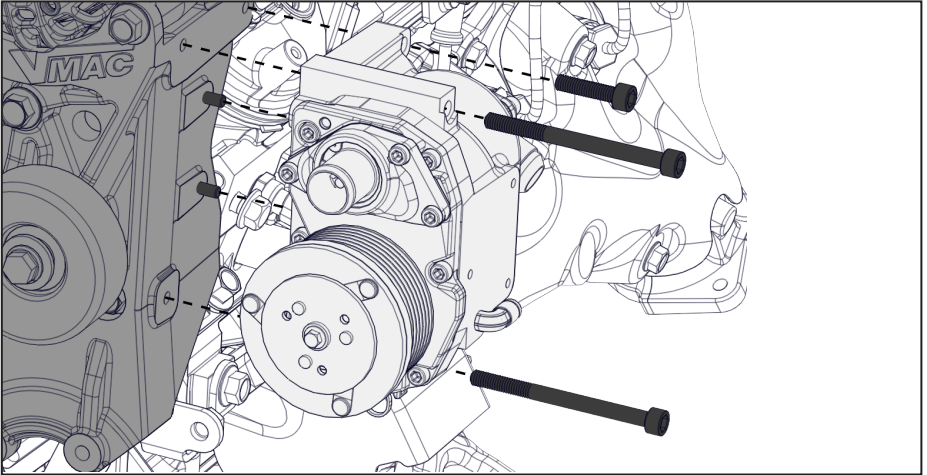

Figure 16 — Compressor installation
- Install the 3 compressor bolts (Figure 16).